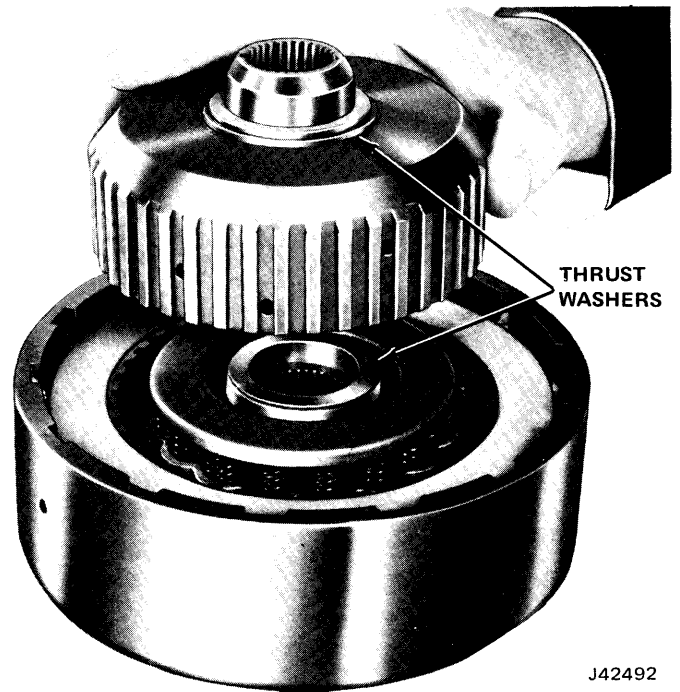
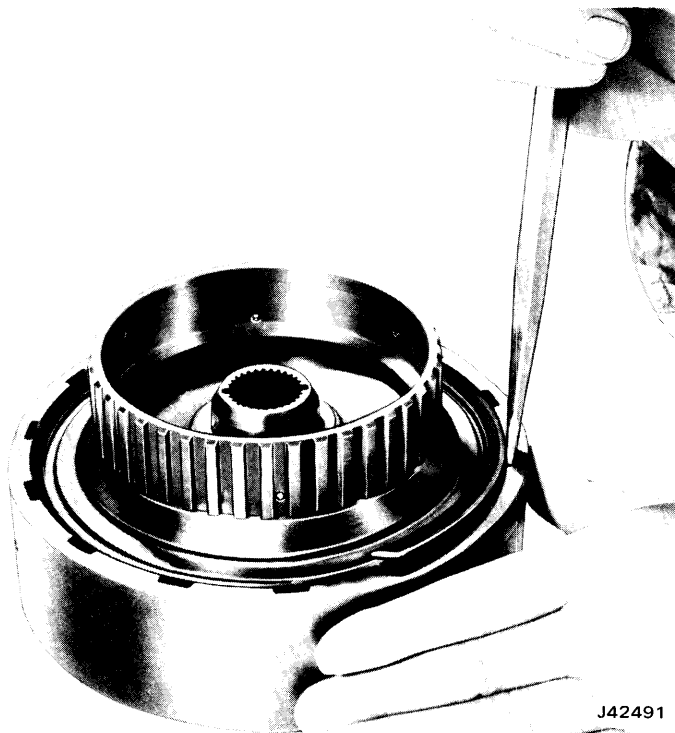
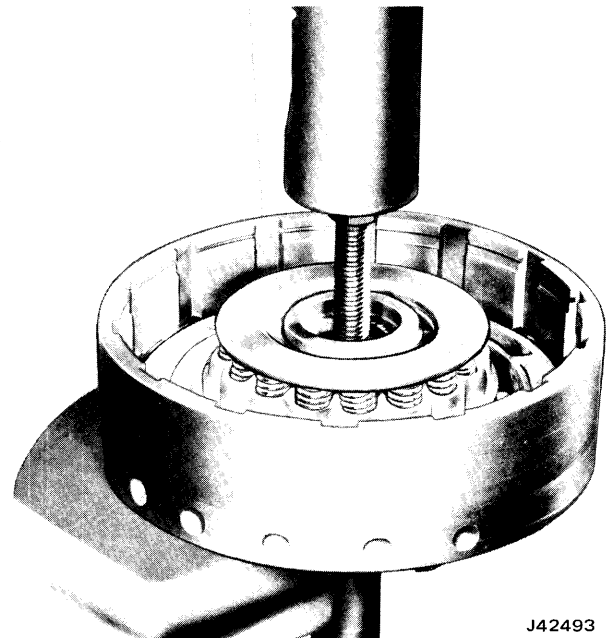

Fig. 7-68 Removing Hub and Thrust Washers from Forward Clutch Assembly
Fig. 7-67 Removing Forward Clutch Housing Snap Ring
Fig. 7-69 Pressing Turbine Shaft Out Of Forward Clutch Housing
(1) Place forward clutch and turbine shaft in hole in bench and remove snap ring which retains forward clutch housing to direct clutch hub (fig. 7-67).
(2) Remove clutch hub from housing.
(3) Remove forward clutch hub and thrust washers (fig. 7-68).
(4) Remove four composition-faced and four steel clutch plates.
(5) Mount forward clutch and turbine shaft in arbor press, and press turbine shaft out of clutch housing (fig. 7-69).
**NOTE:** The turbine shaft and clutch housing are serviced separately. The shaft may be removed from the housing by using a suitable size bolt in an arbor press (fig. 7-69).
(10) Install direct clutch hub in clutch housing and install retaining snap ring (fig. 7-67).